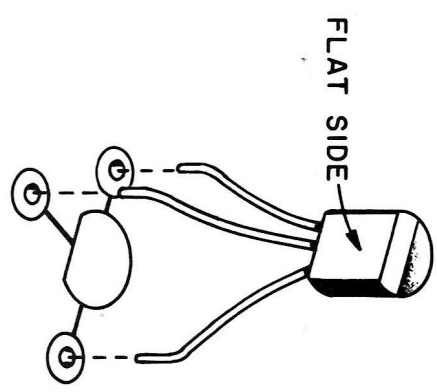

Figure 8
- TR-5, transistor. Be sure to position the flat side as shown and mount it as shown in Figure 8. Solder each lead.